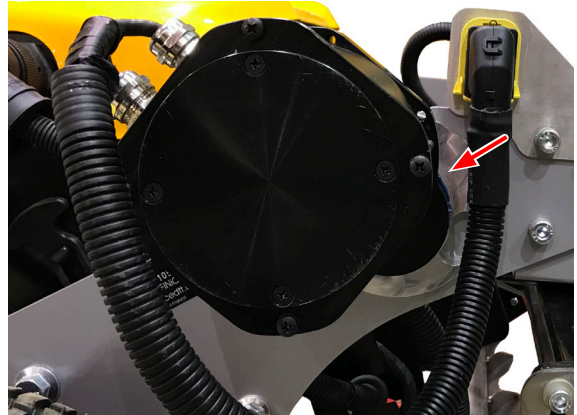

Figure 32
- Lift motor away from floating head and place it on support brackets. See Figure 32.